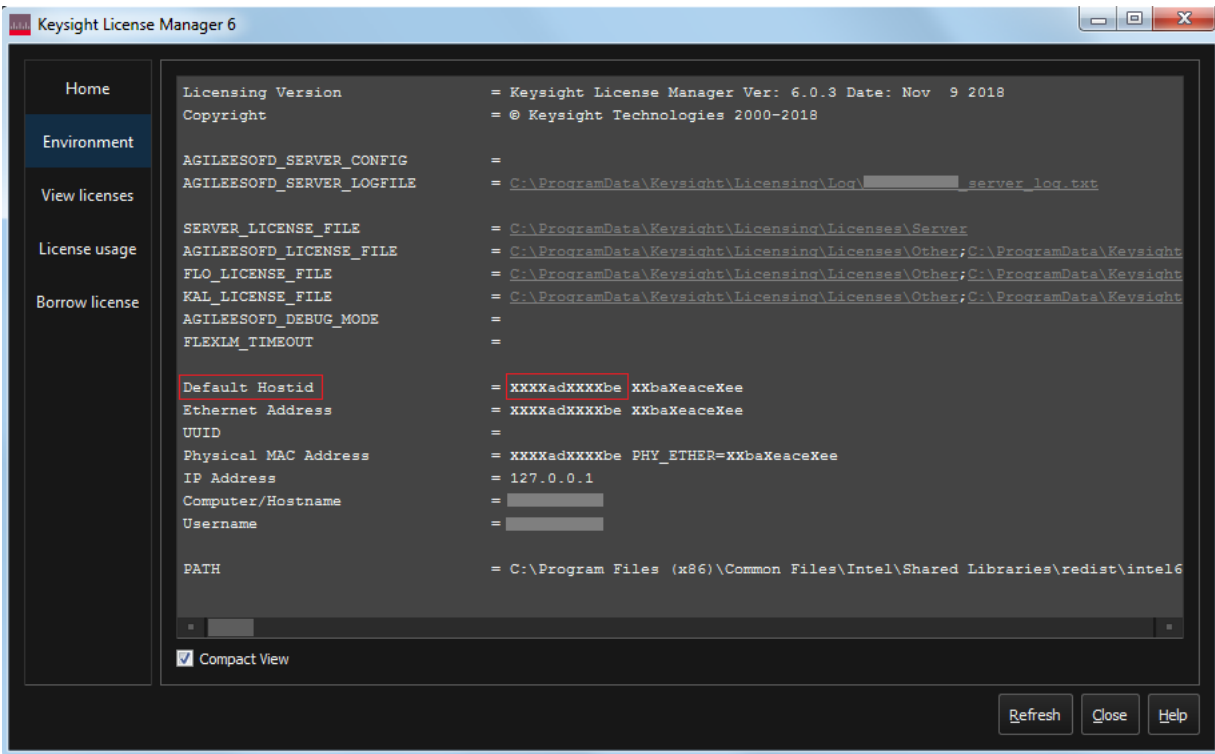

Figure 4 Viewing the Host ID information in Keysight License Manager 6
- 2 Copy the Host ID, which is the first set of alphanumeric value (as highlighted in Figure 4) that appears in the Environment tab of the application. Note that x indicates numeric values.